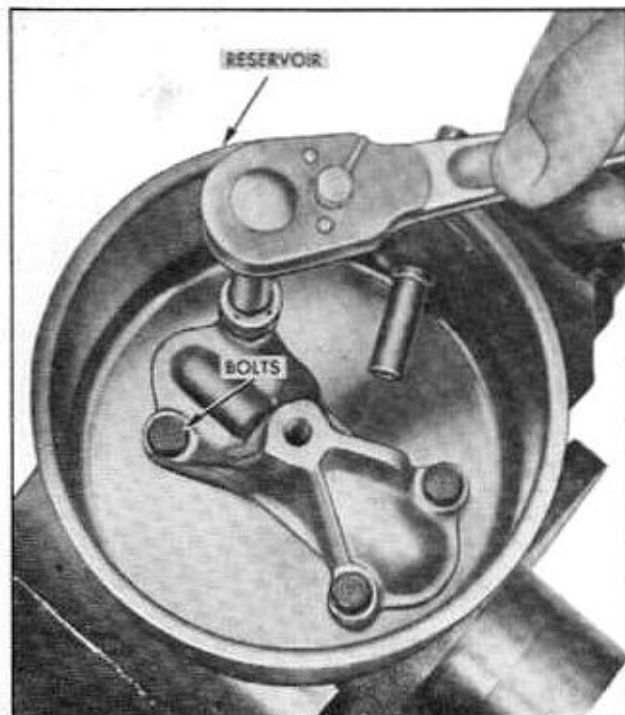

Fig. 9-71 Removing Pump Reservoir
4. Remove four reservoir-to-pump bolts (Fig. 9-71).